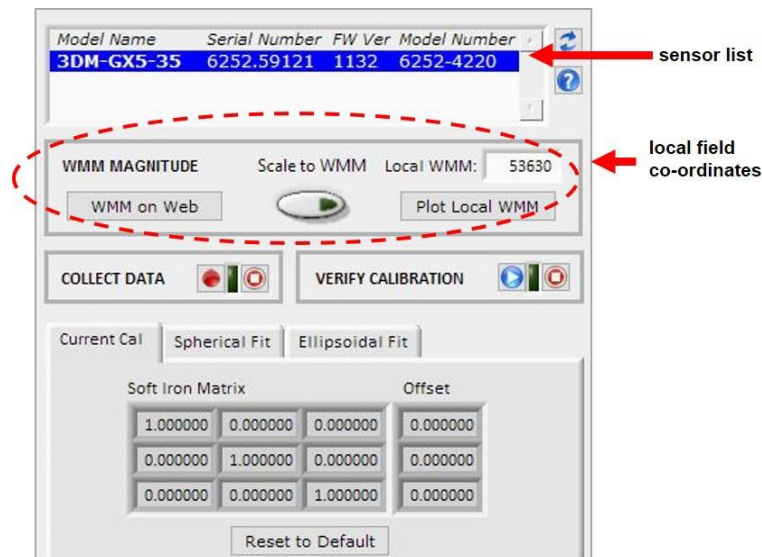

Figure 20 -Sensor Menu
- 3 The sensor should automatically appear in the sensor list. If not, use the Refresh button to query it and then select the sensor (Figure 20 - Sensor Menu).